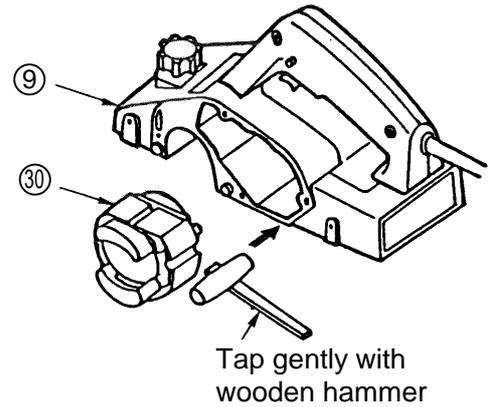

Fig. 9
- As illustrated in Fig. 9, tap gently on the End Bracket mounting side of the Housing ⑨ with a wooden hammer or similar tool to loosen and remove the Stator ③⑩.